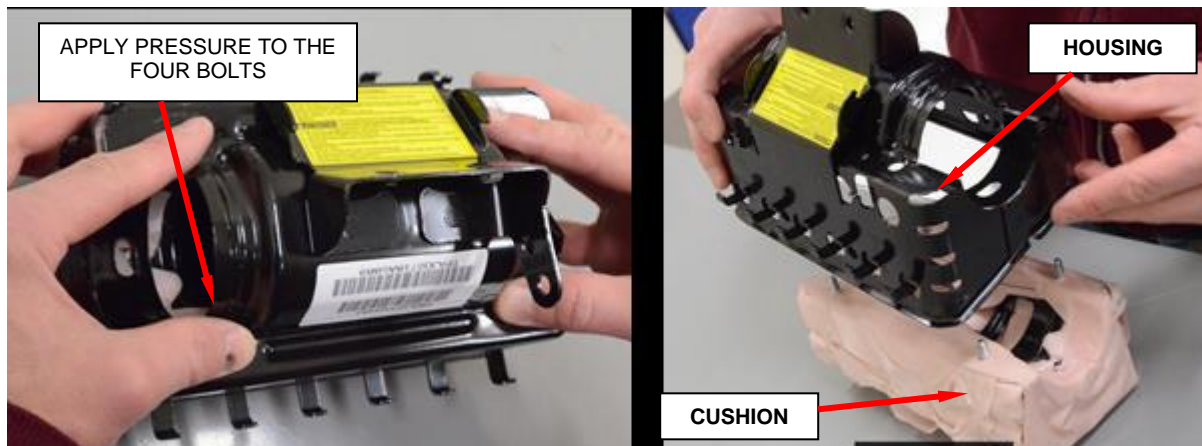

Figure 109 – Remove Airbag Cushion from Housing
h. Remove airbag cushion from housing by applying pressure to the bolts, set cushion aside (Figure 109).